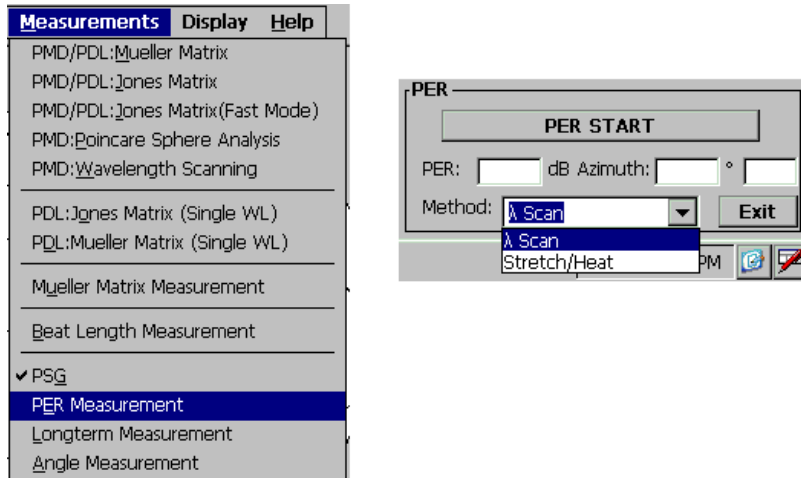

Figure 32 PER measurement selection
- Select “**PER Measurement**” from the “**Measurements**” menu (Figure 32).
- As mentioned in the previous section, PER is determined by measuring output polarization rotation caused by changes in the relative phase between the two polarization components. The changes in relative phase can be caused either by variation in input wavelength or by changes in the fiber’s optical path length. The PSGA’s measurement method options are based on these two principles. In the **Stretch/Heat** method, the input wavelength remains constant, and the user stretches or heats the PM fiber to cause polarization rotation. In the **λ scan** method, the tunable laser is used to scan the input wavelength, while the PM fiber is left unchanged. Select the desired method from the **Methods** pull-down menu in the PER measurement area in the bottom right corner of the main screen (Figure 32).